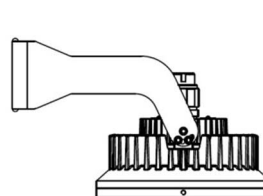

Figure 1
- ☞ Position the bracket holders and fix it by means of the provided M8 screws, 61.0 kgf-cm. (Figure 1)